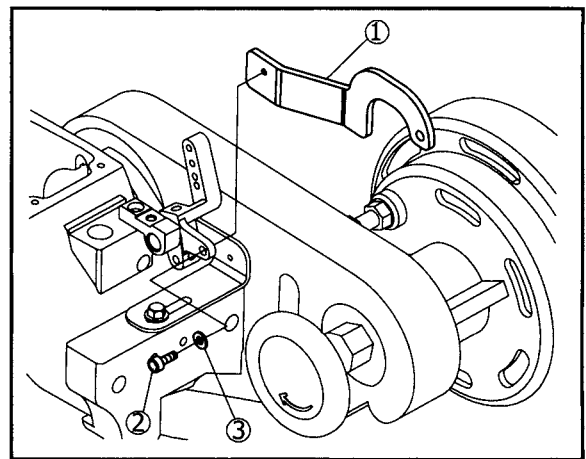

Fig. 5
Set the persser foot connecting lever ① with the screw ② and the washer ③ . (Fig.5)